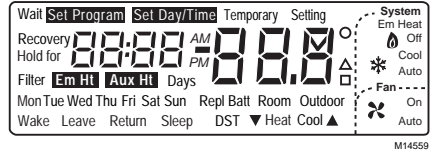

Fig. 9. LCD segments display.
2. Observe all segments of the display are displayed before the 10 appears. See Fig. 9 and 10.